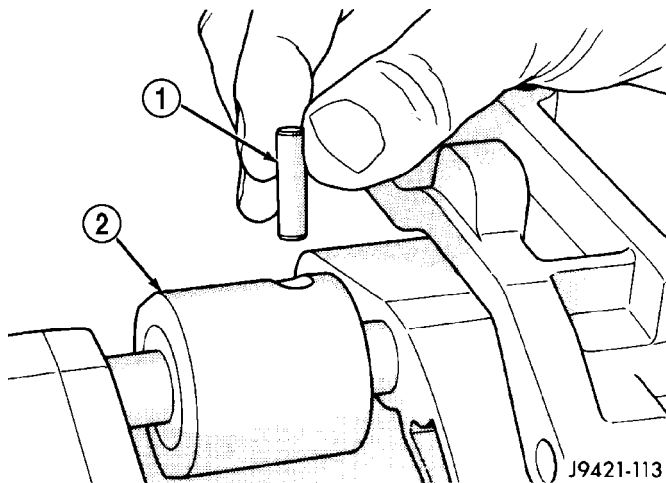

Fig. 111 ROLL PIN IN SHIFT SHAFT
(9) Align roll pin holes in shift shaft, lever and bushing. Then start roll pin into shaft lever by hand (Fig. 111).